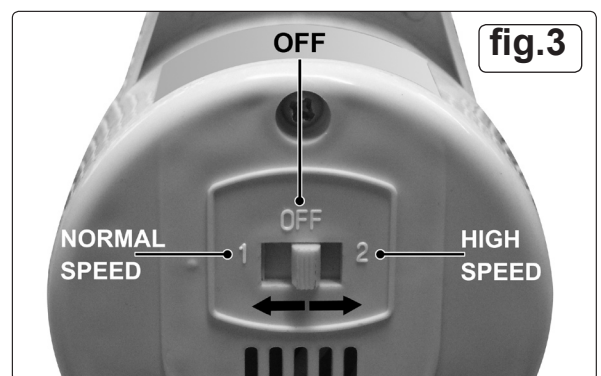

fig.3
- 3.6. Move slide switch on the rear of the fan head to position "1" for normal fan speed operation, and to position "2" for high fan speed. To stop the fan, move the slide switch to the central 'OFF' position. See fig.3.